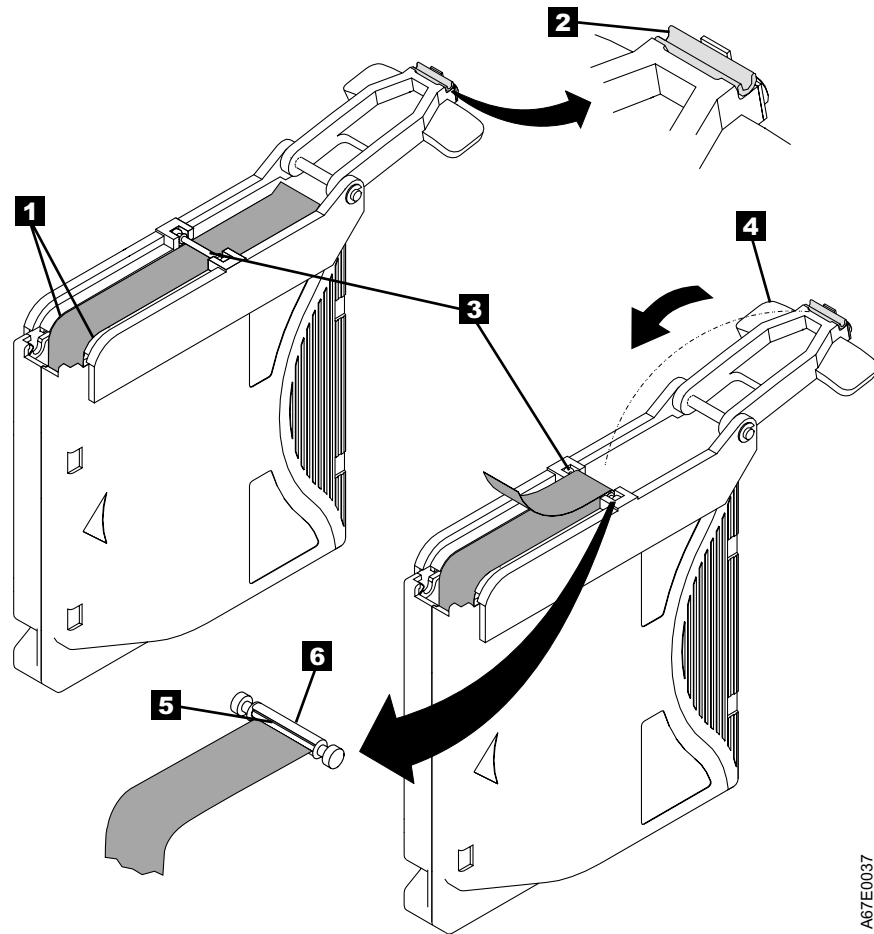

Figure 16. Attaching the Leader Pin to the Tape
7. Position the tape in the alignment groove of the leader pin attach tool (see **1** in Figure 16).
8. Place a new C-clip into the retention groove **2** (Figure 16) on the leader pin attachment tool and make sure that the clip's open side faces up.
9. Place the leader pin (from step 6 on page 46) into the cavity **3** (Figure 16) of the leader pin attach tool.
10. Fold the tape over the leader pin and hold it with your fingers (see Figure 16).